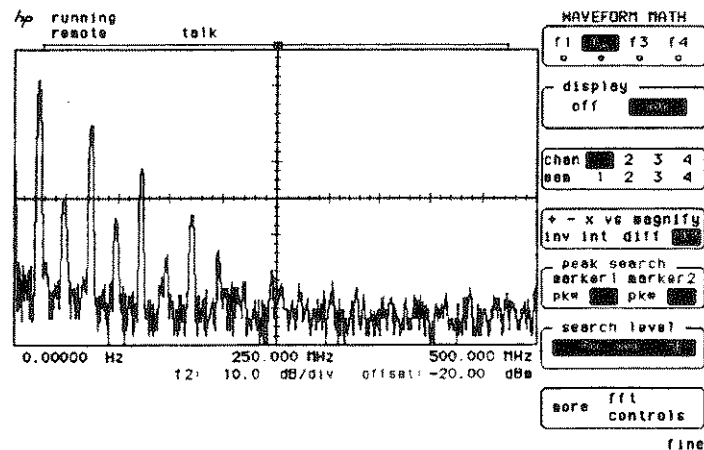

Figure 9-8. FFT Plot of Channel 1 Signal
- Press WFORM MATH to define the function. Select  $f2$  and turn the display on. Select the  $fft$  operator and  $chan 1$  operand. The FFT is plotted on the display as in figure 9-8.